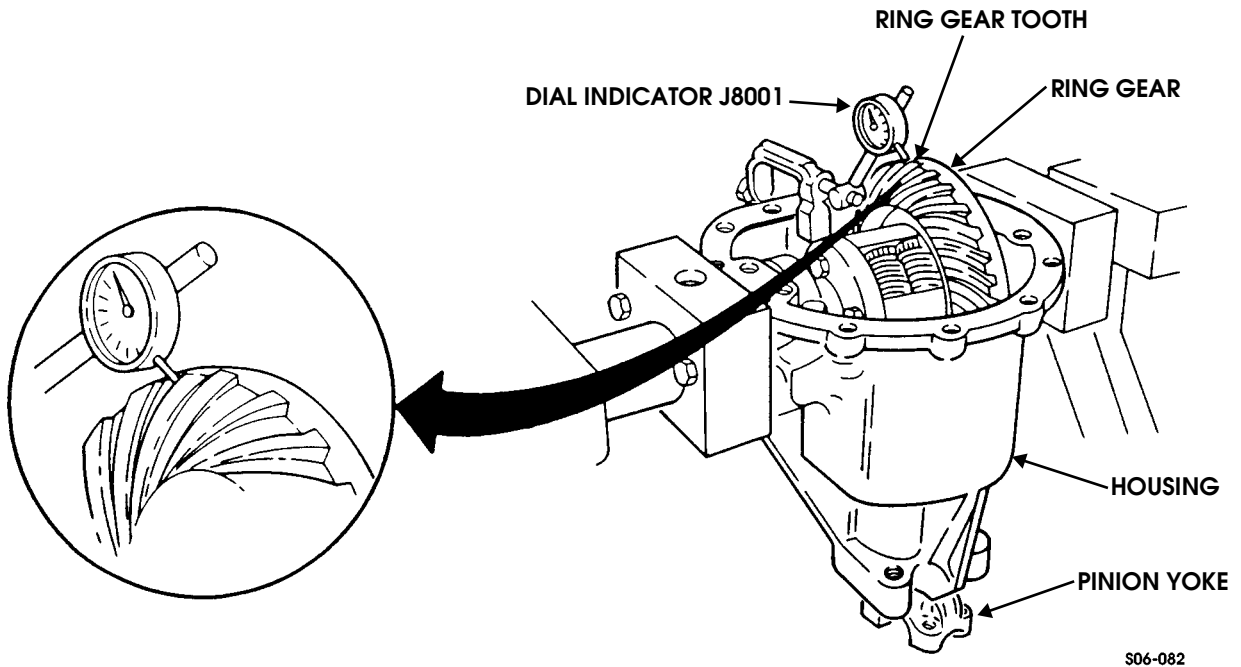

Figure 9-95: Checking Ring Gear Backlash
49. Attach dial indicator to housing and position indicator to read off drive side of ring gear tooth at a right angle (Figure 9-95).